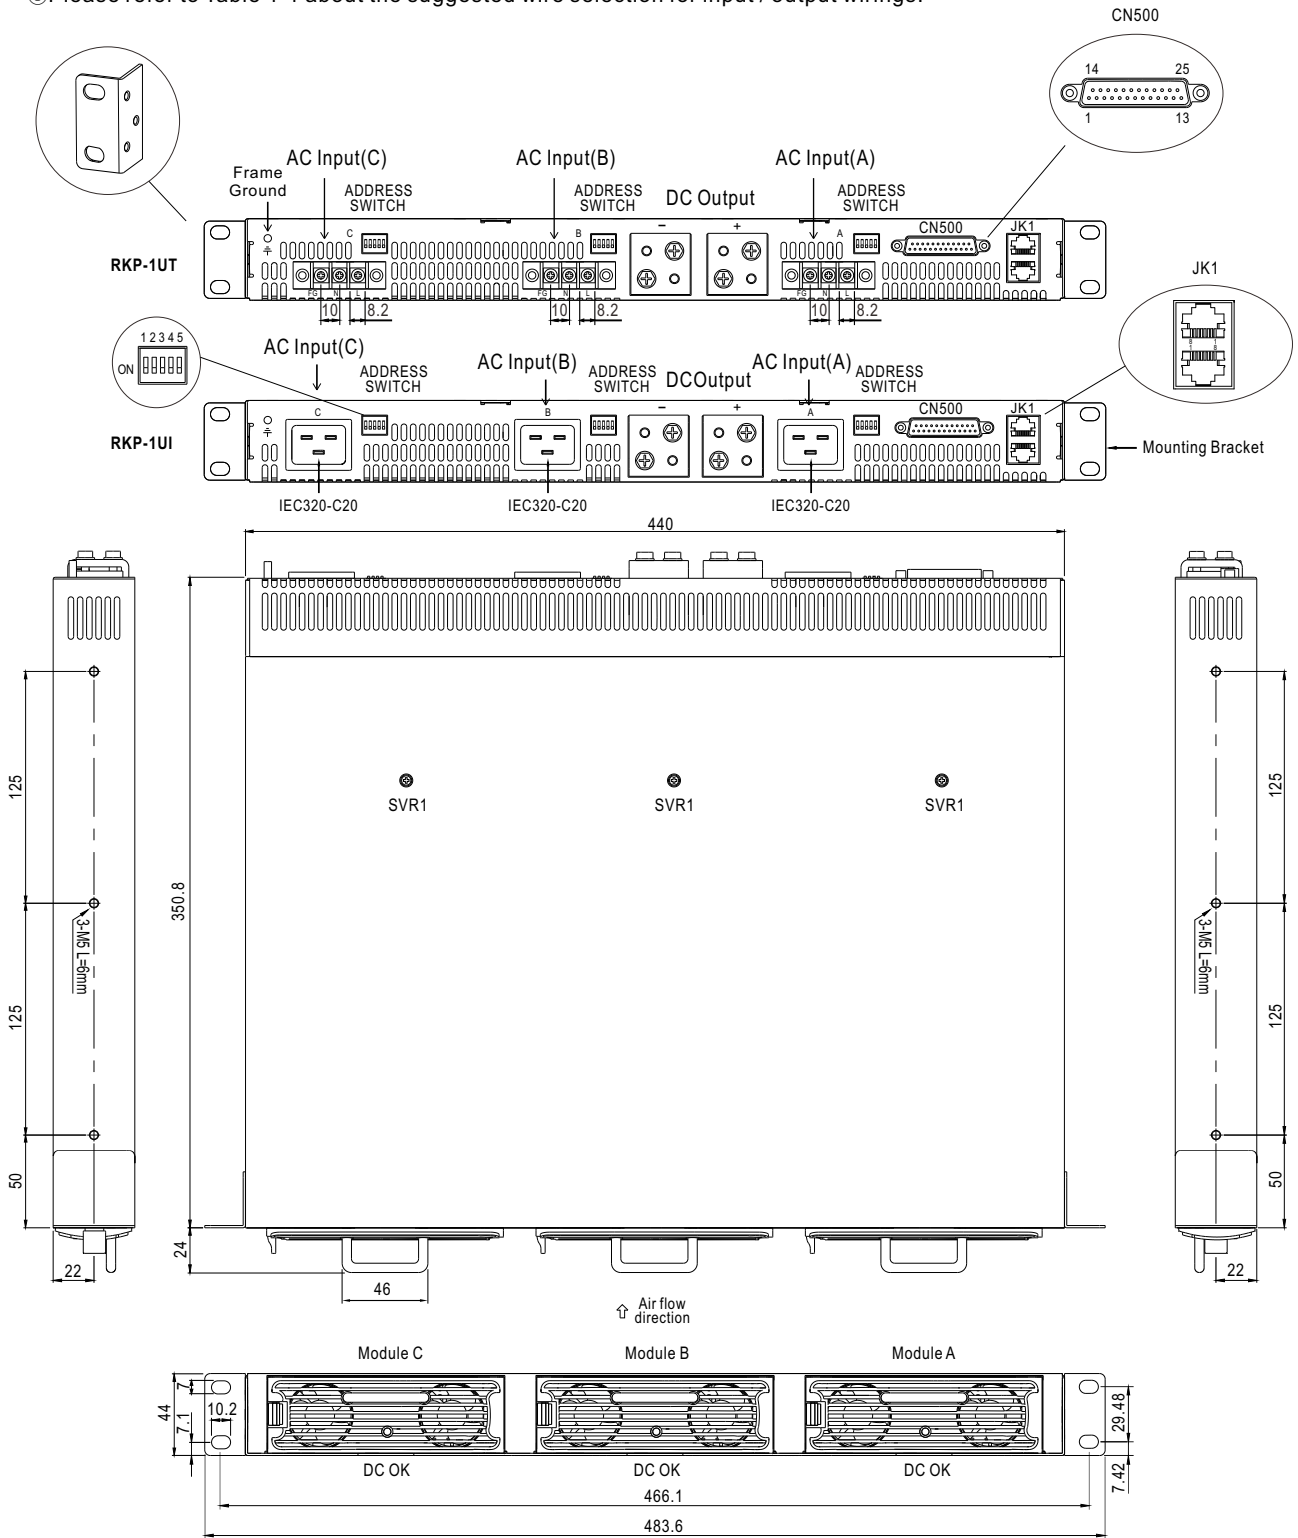

Figure 4-1 System assembly diagram of RCP series
- Ⓞ Insert 1~3 pieces of RCP-2000 (with the same output voltage and current) into the RKP-1U□ (refer to Figure 4-1).
- Ⓞ Definition of module position: A is on the right, B is in the middle, and C is on the left (refer to Figure 4-1).